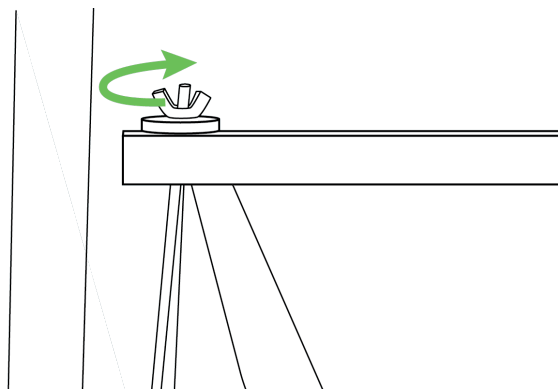

Figure 6-47. Tightening the wingnuts
5. Tighten the wingnuts to secure the printer in its compartment (Figure 6-47).